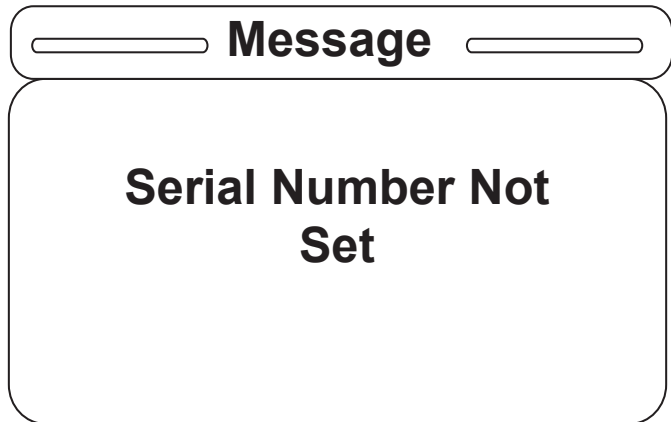

Figure S-20
20. If the Current SN item is selected and no serial number has been entered by the user, the screen in Figure S-20 will be displayed.